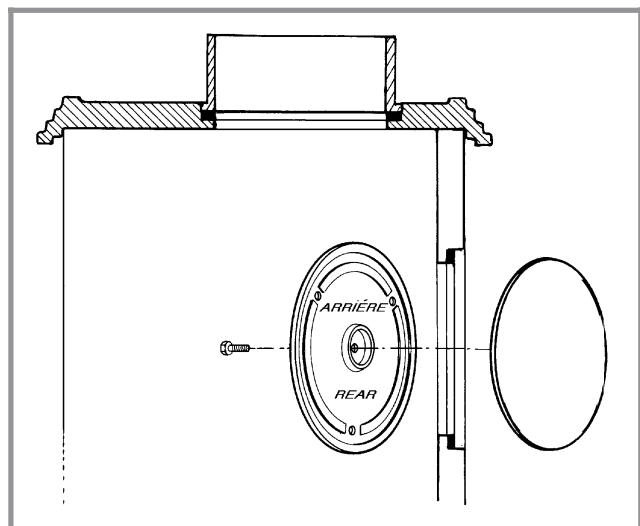

Fig. 5 - Smoke exit from top
2.3.2. Smoke exit on the top (Fig. 5)